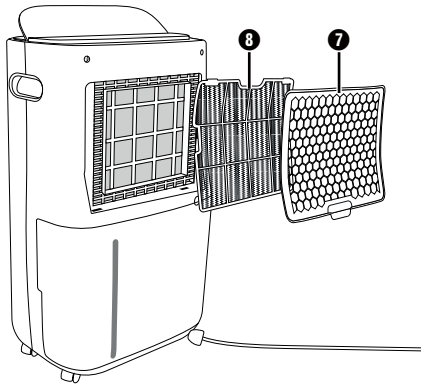

Fig. 6
- ◆ Assembly is carried out in the reverse order (see fig. 6). Slide the air filter **8** first under the two upper retaining tabs of the air inlet grille **7** and then under the lower retaining tabs.